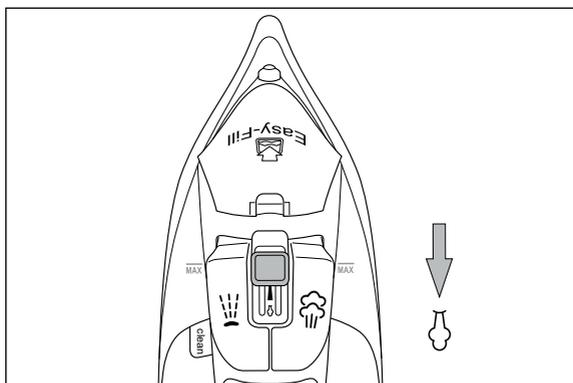

Fig. 1
- 3) Slide the steam control 3 all the way down to position  (more steam) (see Fig. 1).